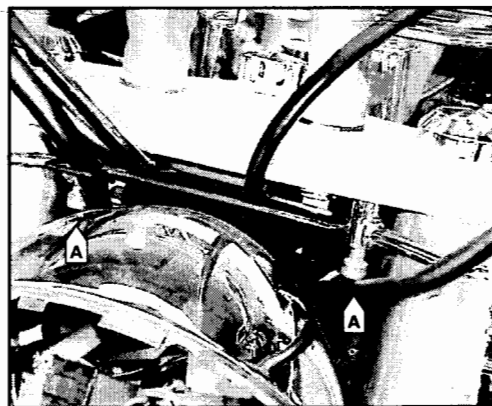

Figure 3
6. The windshield mounting bracket is attached to the upper and lower fork clamps with four bolts. Two 8 x 40mm bolts are supplied with the windshield for the top of the mount, use the 8 x 12mm bolts removed in Step 5 for the bottom. Apply Suzuki threadlock part # 99000-32020 to the threads of all four mount bolts. Install the windshield mounting bracket to the upper and lower fork clamps. Use a socket head 6mm hex wrench to install the two 8 x 40mm hex bolts. The two 8 x 40mm bolts go through the upper mounting bracket arm ends and into the provided holes in the bottom surface of the upper fork clamp. Do not fully tighten the bolts yet. See Figure 3.